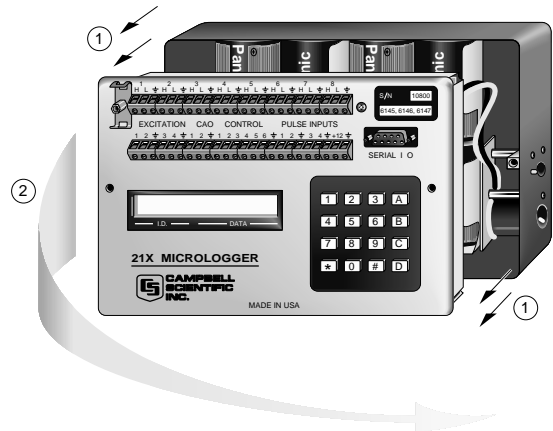

FIGURE I-2. Separating the Faceplate from the Base
4. Remove the faceplate from the base by pulling the faceplate straight out from the base (① on Figure I-2).
5. Once the faceplate has been disengaged from the mounting posts, rotate the left side of the faceplate away from the base to expose the battery pack (② on Figure I-2).